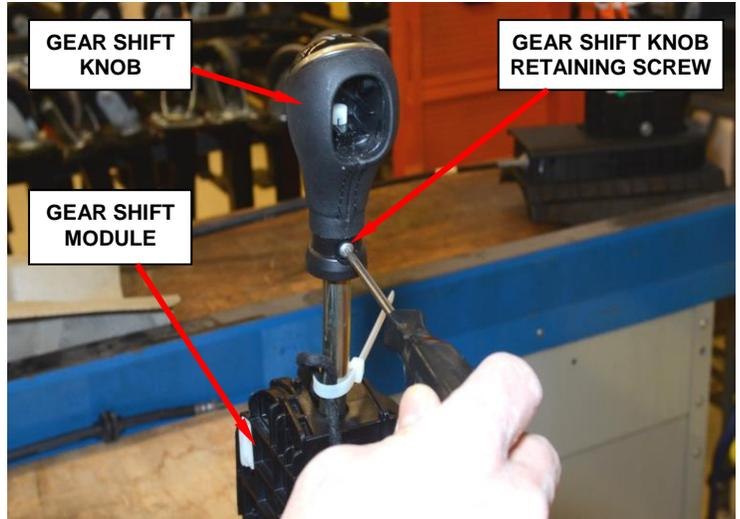

Figure 10 – Gear Shift Knob Retaining Screw
- b. Remove and save the gear shift knob retaining screw (Figure 10).
- d. Slide the gear shift knob onto the new gear shift module lever (Figure 10).
- e. Insert the gear shift knob retaining screw and tighten securely (Figure 10).